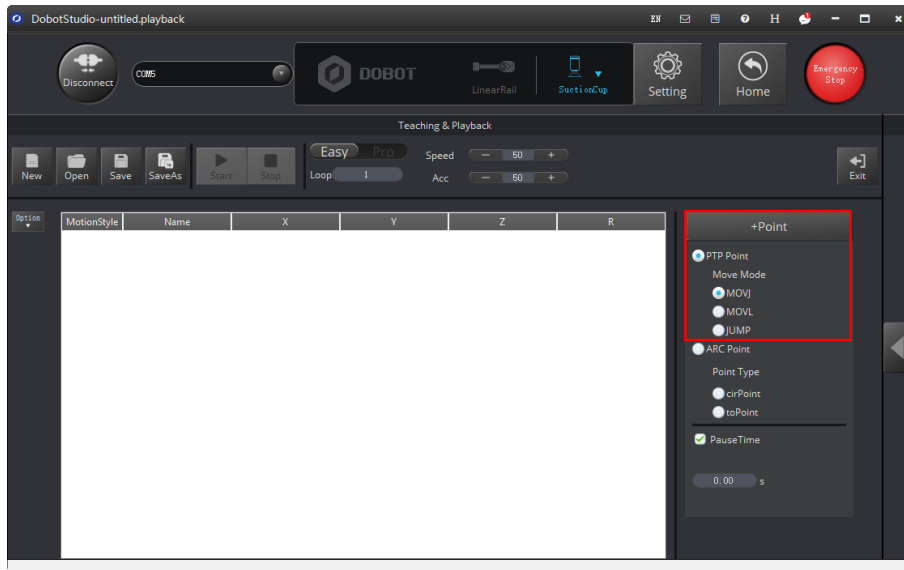

Figure 2.19 Select MOVJ motion mode
2. Select **PTP Point > MOVJ** mode in the Save Point area, as shown in Figure 2.19.